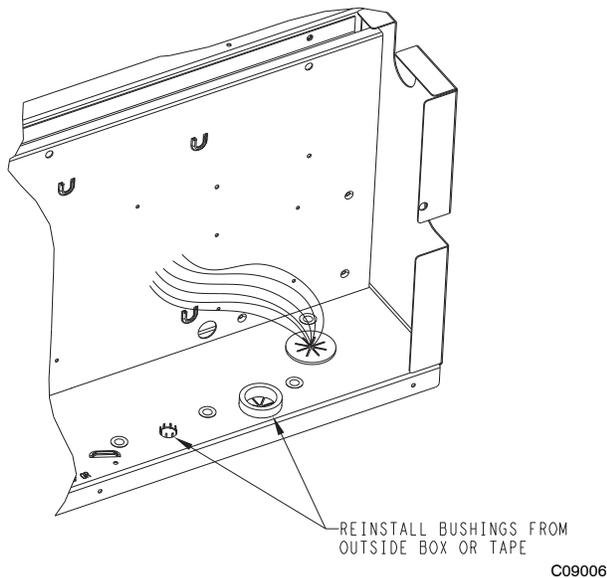

Fig. 9 - Bushings Replaced from Outside Control Box
trol box which are not used must be plugged before installing the SPB. Use foil tape or reinstall the bushings from the outside of the control box prior to securing the SPB. (See Fig. 9.)
8. Remove the single point box cover. Secure single point box to the underside of the control box with the 2 screws provided. (See Fig. 3.) Re-install bushing on the SPB tap conductors. (See Fig. 9.)